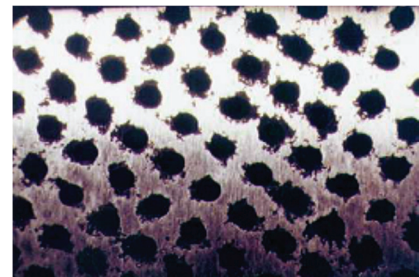

Figure 12. Fiber build-up in suction roll shell through holes with corrosive chemicals leads to shell failure.
- Shell failures: Corrosive chemicals build-up in a shell through holes and remain there (**Figure 12**). The worst combination is a bronze shell with a closed loop water system.